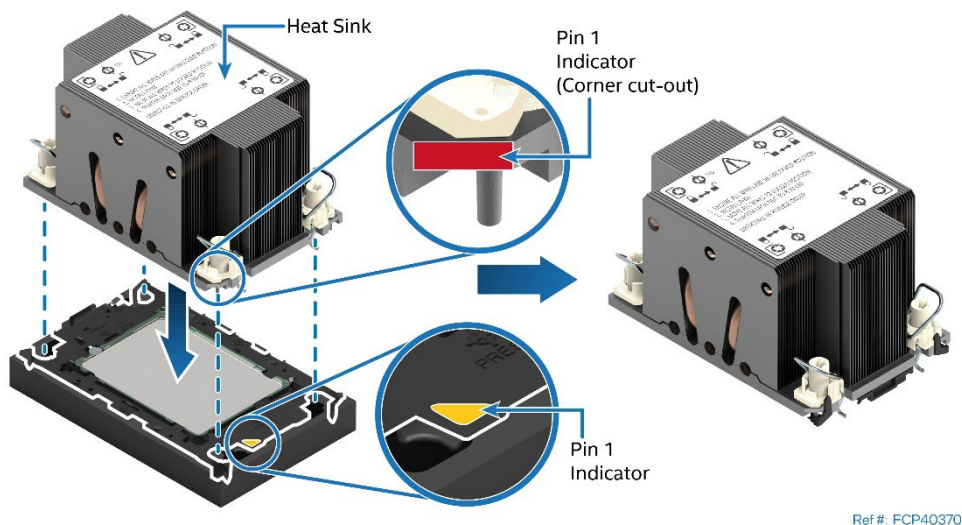

Figure 94. Pin 1 Indicator of Processor Carrier Clip
9. Align the Pin 1 indicator of the processor carrier clip with the corner cut-out on the heat sink (See Figure 94)